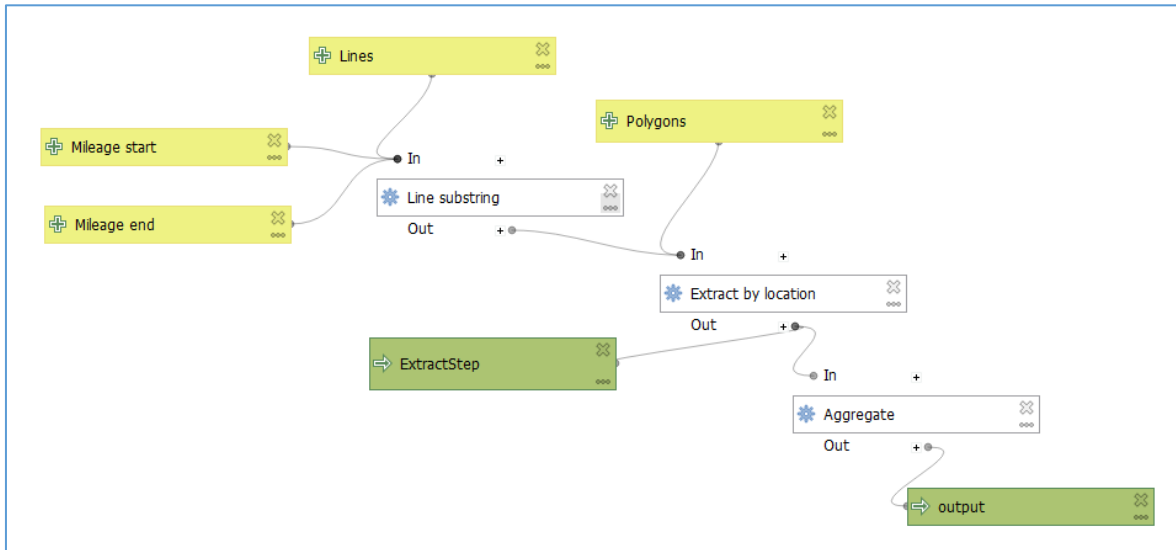

Fig. 8. Full model scheme, presenting how each component connects to the next.
- J. Add the **Aggregate (Vector geometry)** algorithm to the model. Use **Algorithm output** from the *Extracted location* as the **Input layer**. Now repeat the steps from the algorithm setup presented in step 2c: points B–C, setting the attribute and expression. Save the results as **output**. Once finished, your model should look like in the figure 8.